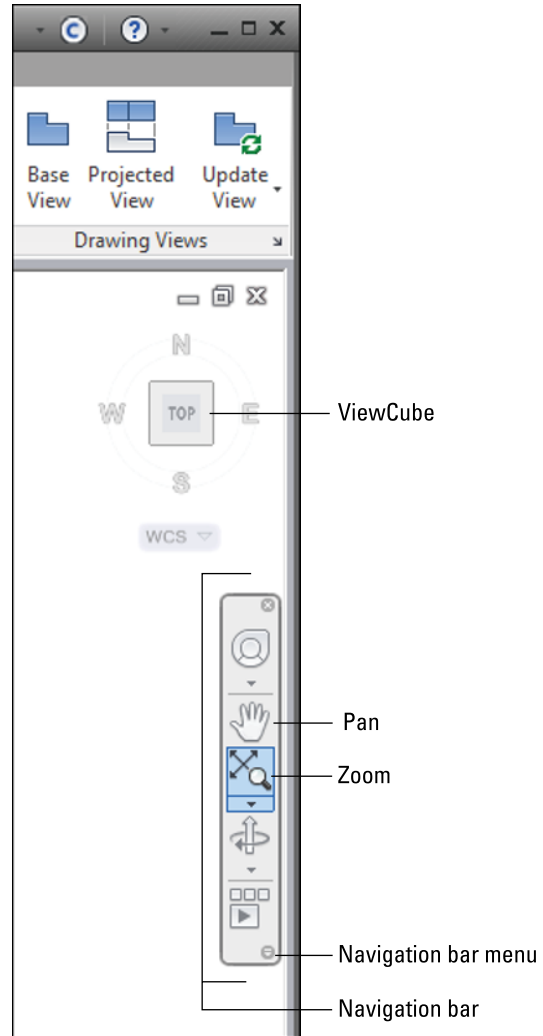

FIGURE 5-1:
- » **On the Navigation bar:** The Navigation bar contains both Zoom and Pan buttons. Figure 5-1 shows the upper-right corner of the AutoCAD window with the Navigation bar in its default location, linked to the ViewCube. Because the ViewCube is more useful in 3D drawing, I tell you about it in Chapter 21.
- » **Turn off navigation buttons.** Open the Navigation bar menu by clicking the down arrow in its lower-right corner (refer to Figure 5-1) and deselect SteeringWheels, Orbit, and ShowMotion.